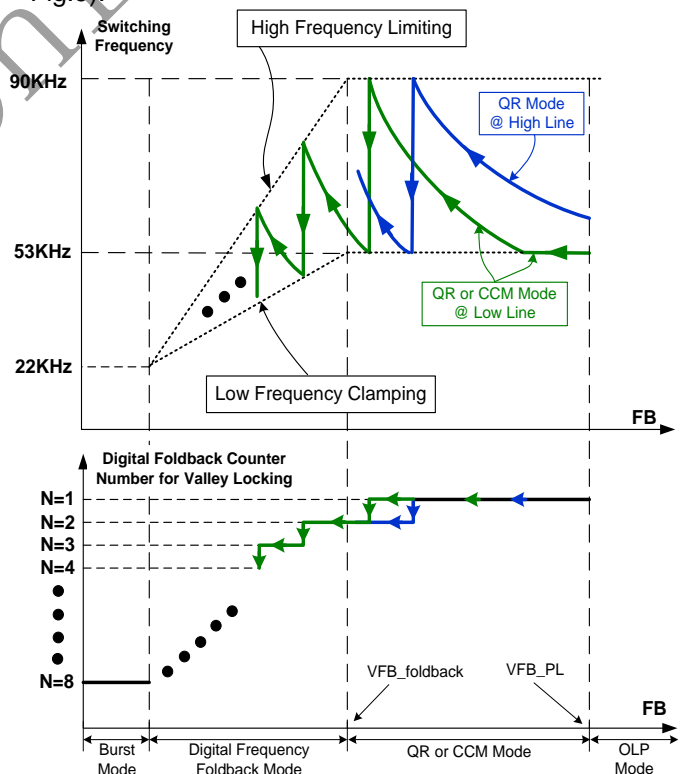
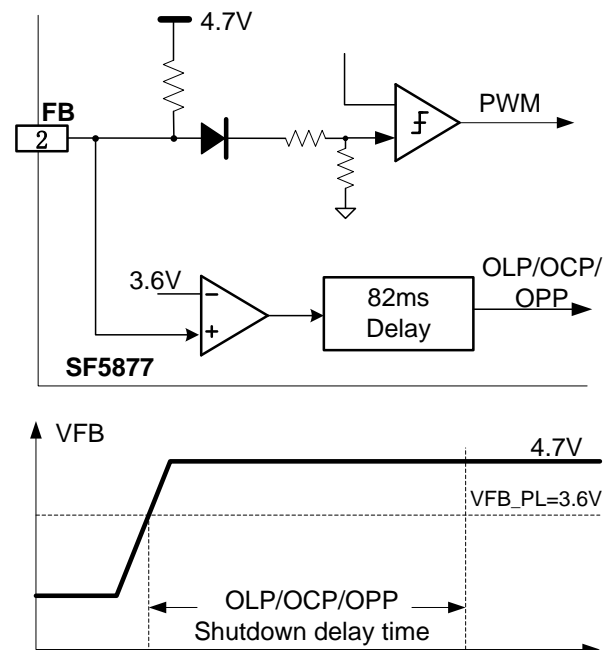
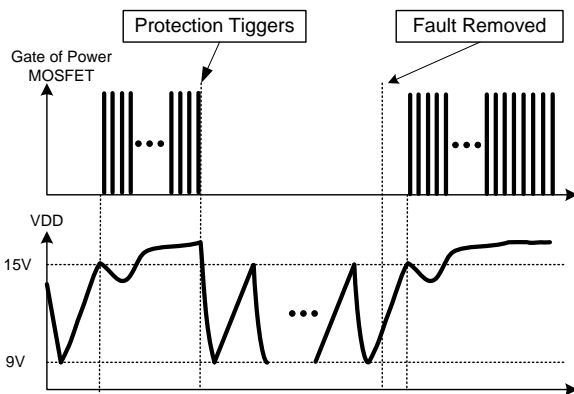

Fig.3
Fig.8
Fig.9
■ At normal or full loading conditions, the operating mode is CCM when the input is in low line range since the low clamping frequency (52KHz typical) is touched. Thus, small size transformer can be used with high power conversion efficiency. When the input is in high line input range, the IC work in QR mode with high frequency clamping (typical 80KHz), as shown in Fig.3. When FB voltage is larger than VFB_PL, the system enters into OLP mode with auto recovery protection (as illustrated in Fig.8 and Fig.9).
■ At light loading conditions (FB voltage is below VFB_foldback), the IC works in “**Digital Frequency Foldback**” mode. The system frequency is limited between “High Frequency Limiting” and “Low Frequency Clamping”, as shown with the dashed line in Fig.3. In “**Digital Frequency Foldback**”
When OLP/OCP/OPP/Open Loop occurs, a fault is detected. If this fault is present for more than 82ms (typical), the protection will be triggered, the IC will experience an auto-recovery mode protection, as shown in Fig.8. The 82ms delay time is to prevent the false trigger from the power-on and turn-off transient.
As shown in Fig.9, once a fault condition is detected, switching will stop. This will cause VDD to fall because no power is delivered from the auxiliary winding. When VDD falls to UVLO(off) (typical 9V), the protection is reset and the operating current reduces to the startup current, which causes VDD to rise, as shown in Fig.9. However, if the fault still exists, the system will experience the above mentioned process. If the fault has gone, the system resumes normal operation. In this manner, the auto restart can alternatively enable and disable the switching until the fault condition is disappeared.